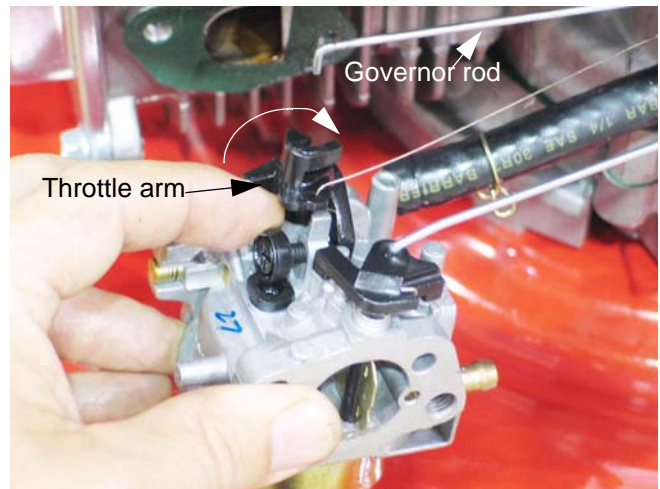

Figure 3.13
- 2d. Rotate the throttle arm until it meets the idle speed screw, then pivot the carburetor slightly to disengage the 90 degree bend at the end of the governor rod. See Figure 3.13.